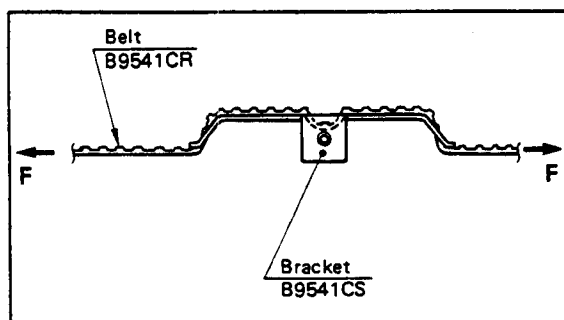

Figure 11-10.
- 3) Gently tighten the belt, a little at a time, as it may be damaged by excessive force, and stretch it taut as shown in Figure 11-10.